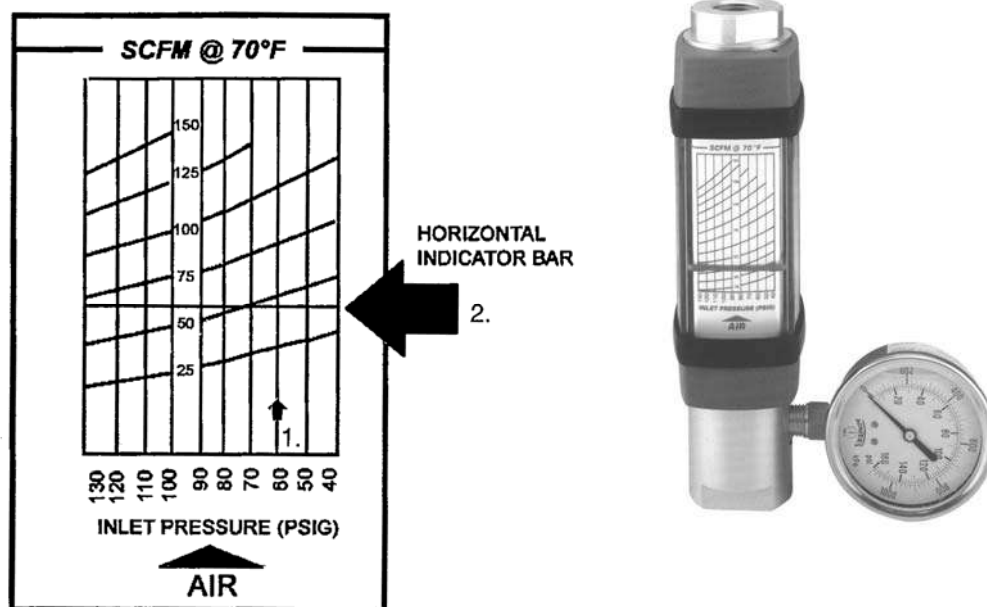

Figure 10. Compressed Air Flow Meter and Scale
- c. Set the high pressure atomizing air to the proper flow rate. Consult supplemental data for details. See Figure 10 for details on reading compressed air flow: